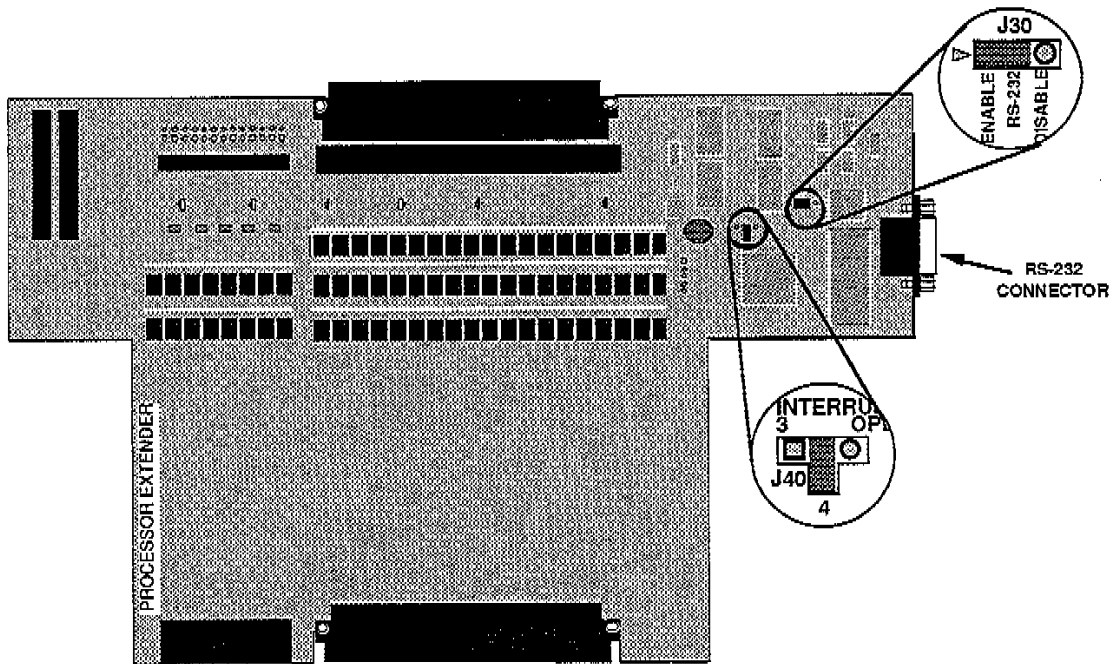

Figure B-1. Processor Extender board setup for RS232 operation.
- 5. Refer to Figure B-1 and set the Processor Extender board jumpers as follows: